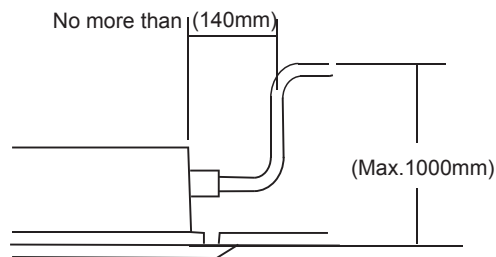

Fig.6-4
- In case the drainpipe outlet is higher than pumping connective pipe of the main body, the drainpipe must be arranged upwards vertically by using connective assembly of the water outlet for vertical bending, and the height of the drainpipe shall set to the defrosting pan surface no more than 1000mm, otherwise, too much backflow while shutdown would leads to overflow (Refer to Fig.6-4).